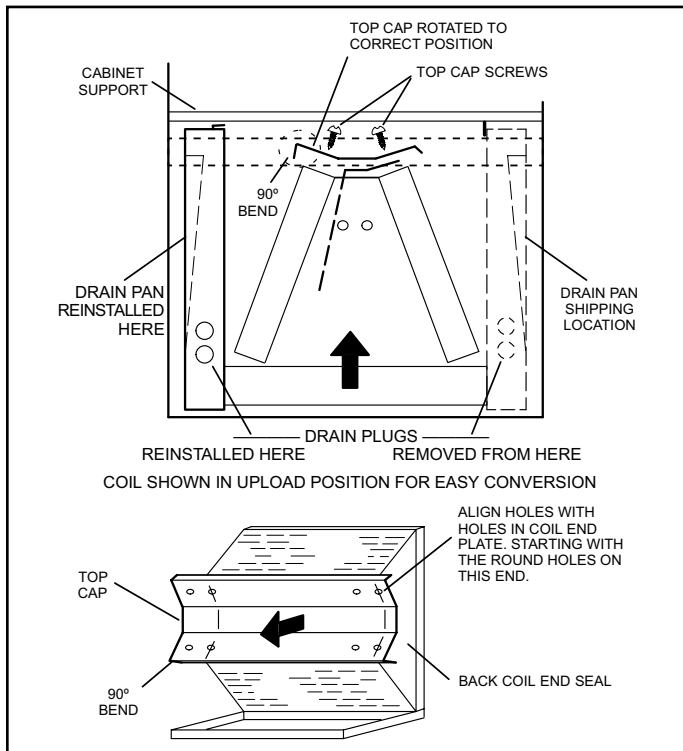

Figure 4. Field Modification for Left-Hand Discharge
7. Rotate top cap 180° front-to-back and align with unused screw holes. Holes must align with front and back coil end plates. The top cap has a 45° bend on one side and a 90° bend on the other. **The 90° bend must be on the same side as the horizontal drain pan** as illustrated in Figure 4.